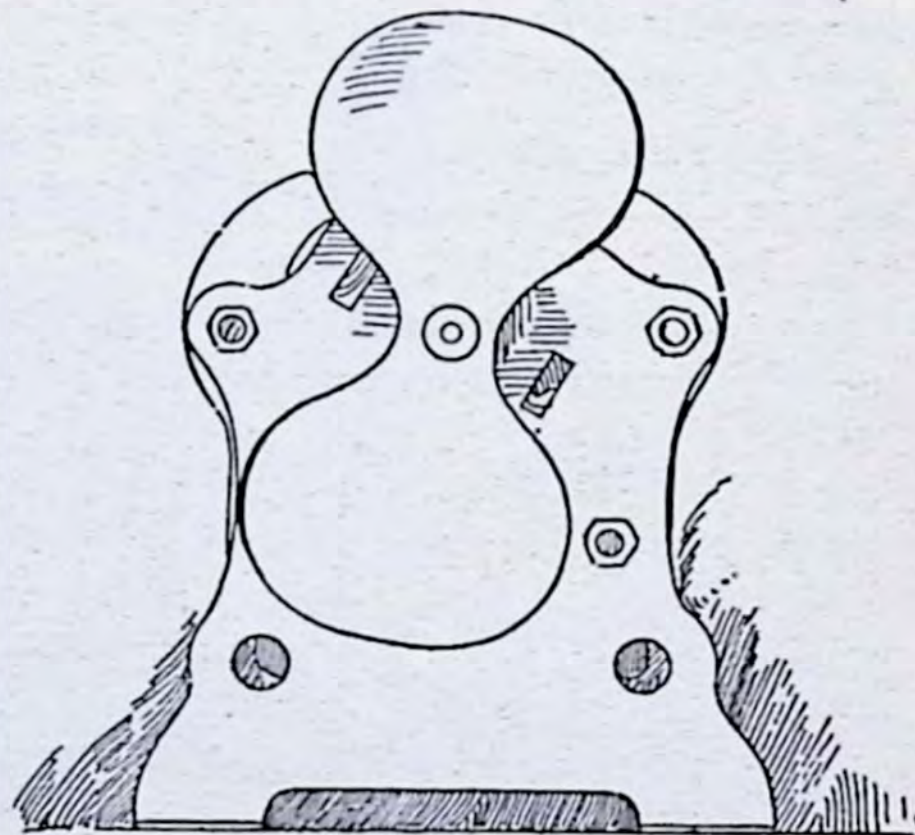

Fig. 38
(44) AN ELECTRIC FAN: Screw a two-bladed fan on the shaft of your motor, as shown in Fig. 38. Switch on the current and be cool. Be sure to get the fan on the right way or it will blow the air toward the motor instead of away from the motor.